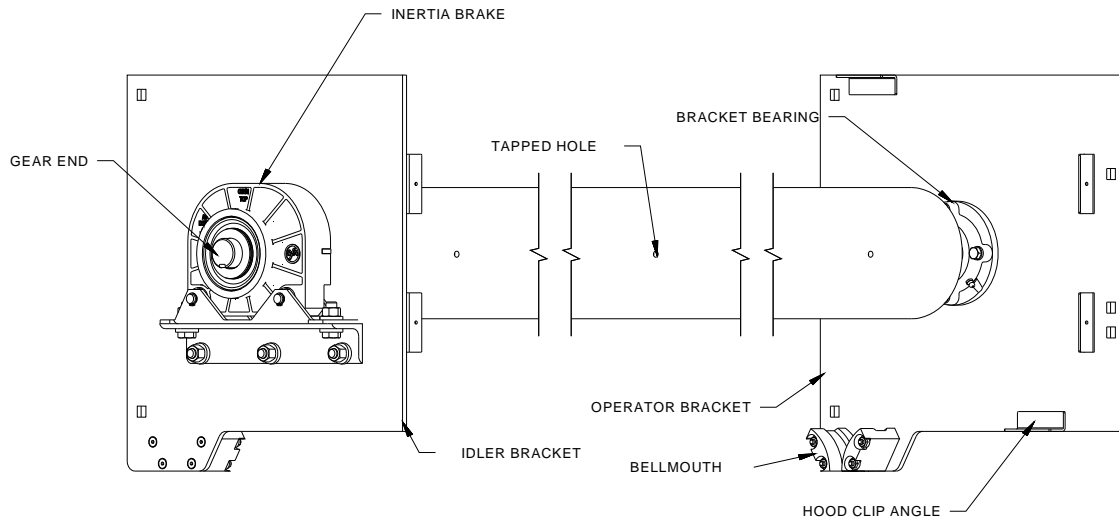

Figure 6.3 – Brackets and Barrel Prior to Installation
- Locate the brackets. Determine the “operator” and “idler” brackets by referring to **Figure 6.3**. The “operator” bracket may vary significantly based on the operation of the door. The “idler” bracket will come preassembled with an inertia brake.